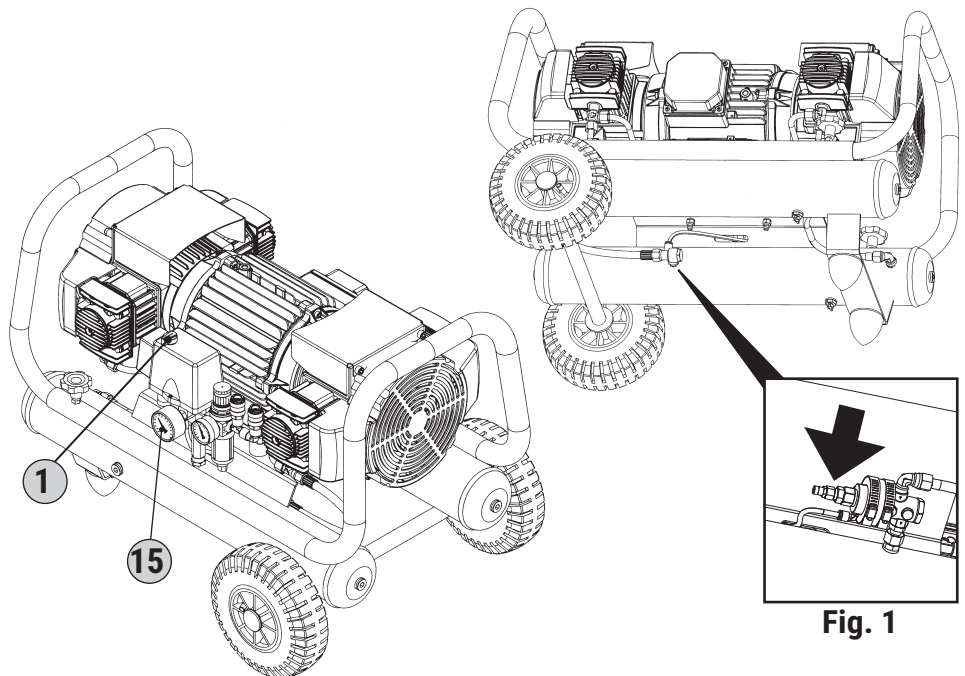

Fig. 1
- The pumping unit is operated by an electric motor flanged to the motor which ensures a constant pressure in the tank, keeping it between the minimum and maximum calibration limit regulated by the Pilot Valve (default pressures) (see Fig. 1: pilot valve).